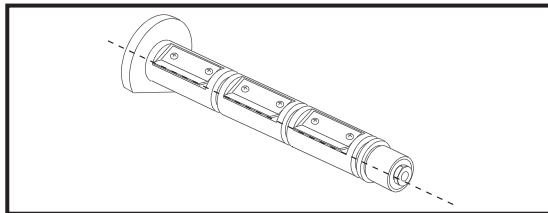

Figure 2.2 Spindle Alignment
1. Align the segments of the Ribbon Supply Spindle. See Figure 2.2.